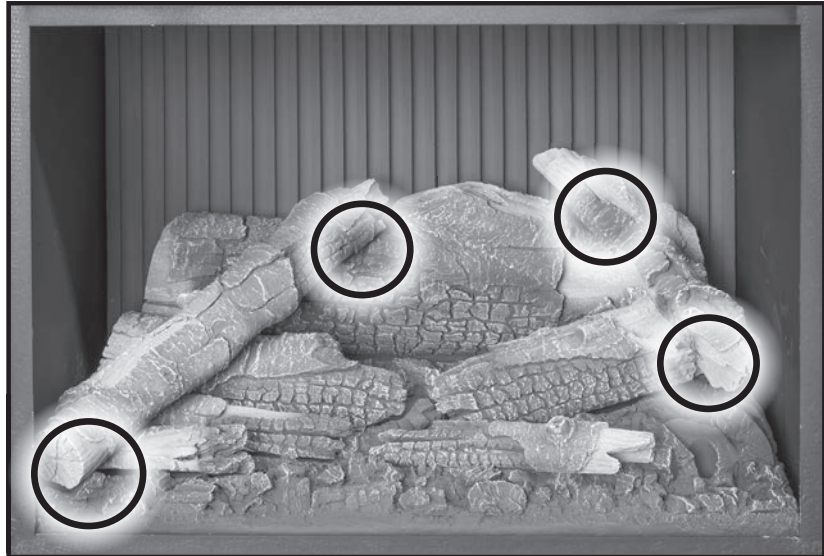

Figure 45. Top Logs.
6. Next, Install the left and right top logs, as shown in Figure 45. Note the locating notches on the bottom side of both logs (areas highlighted).